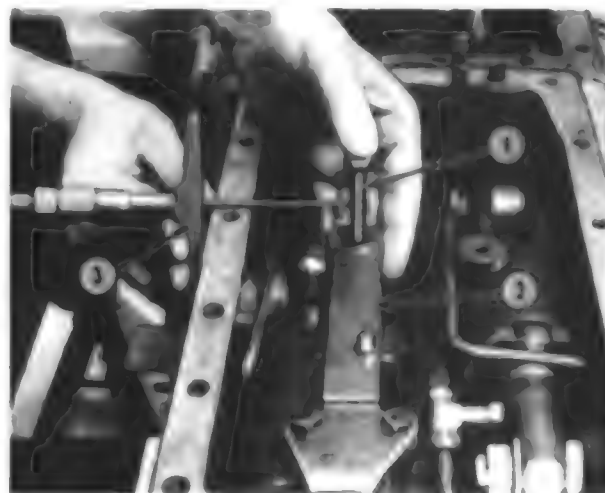

Fig. 129 - Use a depth micrometer set at 3.243 inches to position the pump servo. Refer to text.
Install pump servo (2), with new "O" ring (5) and tighten servo to pump swashplate shoulder bolt to a torque of 42 ft.-lbs. Do not install shims (4) at this time. Install wave washer (12), flat washer (13) and nut (14). Bolt trunnion (3) to housing and tighten nut (14) to a torque of 15-20 ft.-lbs. Then, unbolt trunnion from housing and place a  $\frac{1}{8}$ -inch pin into hole for pump variable orifice. Using a depth micrometer set at 3.243 inches, hold servo to this distance between edge of pin and the machined surface for the trunnion (on housing). See Fig. 129. Using a feeler gage, measure gap between trunnion flange and housing. This gap is the correct shim pack required. Install the half-shims (4 - Fig. 128) and tighten trunnion retaining cap screws to a torque of 35 ft.-lbs. Then, tighten trunnion nut (14) to a torque of 42 ft.-lbs. Recheck the 3.243 inches measurement and if satisfactory, remove the pin from variable orifice hole.